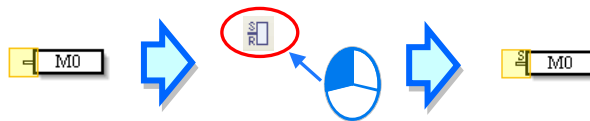

Figure 12-19 Setting/Resetting a pin
- (2) If the users select the pin of an output node, and then click  on the PMSoft toolbar or on the context menu which will appear after the users right-click the pin, the pin will be set. Please see figure 12-19. If the users select a pin which is set, and then click , the pin will be reset. If the users select a pin which is reset, and then click , the pin will not be reset.